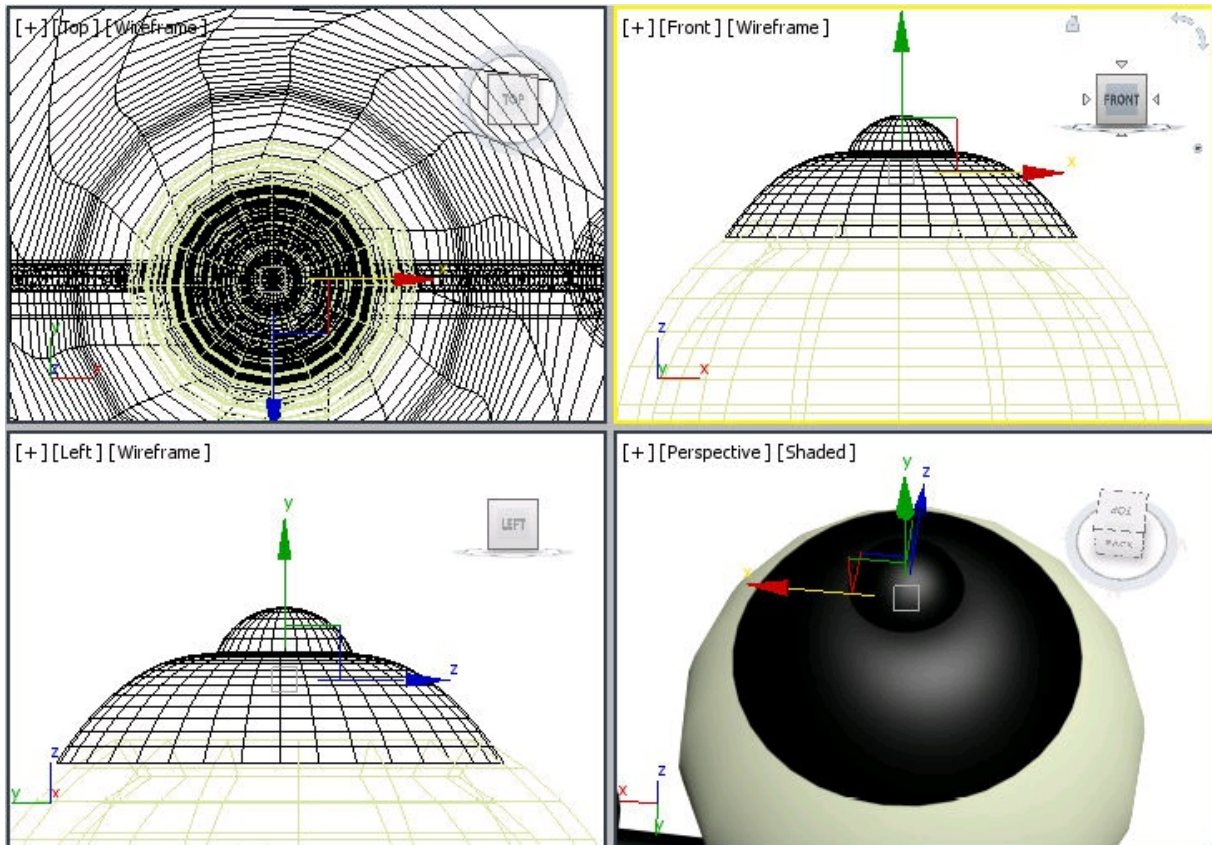

Figure 6-70 The top02 aligned in the viewports
8. Assign black color to *top02* and align it in the viewports, as shown in Figure 6-70.